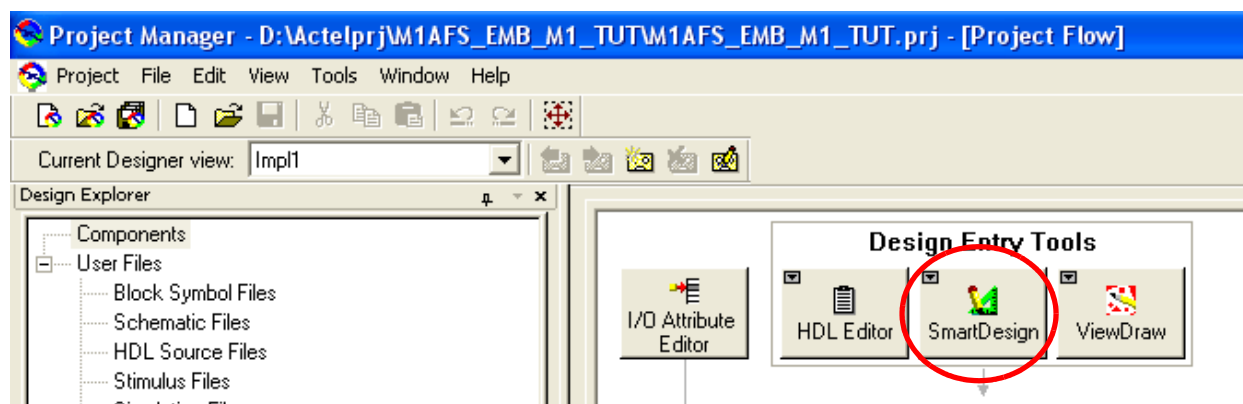

Figure 3-3 • SmartDesign Icon
1. Click the SmartDesign icon in the Design Entry Tools area (in the Project Flow tab, as shown in Figure 3-3).
2. Type **M1AFS_TUT_TOP** in the Name field, as shown in Figure 3-3.